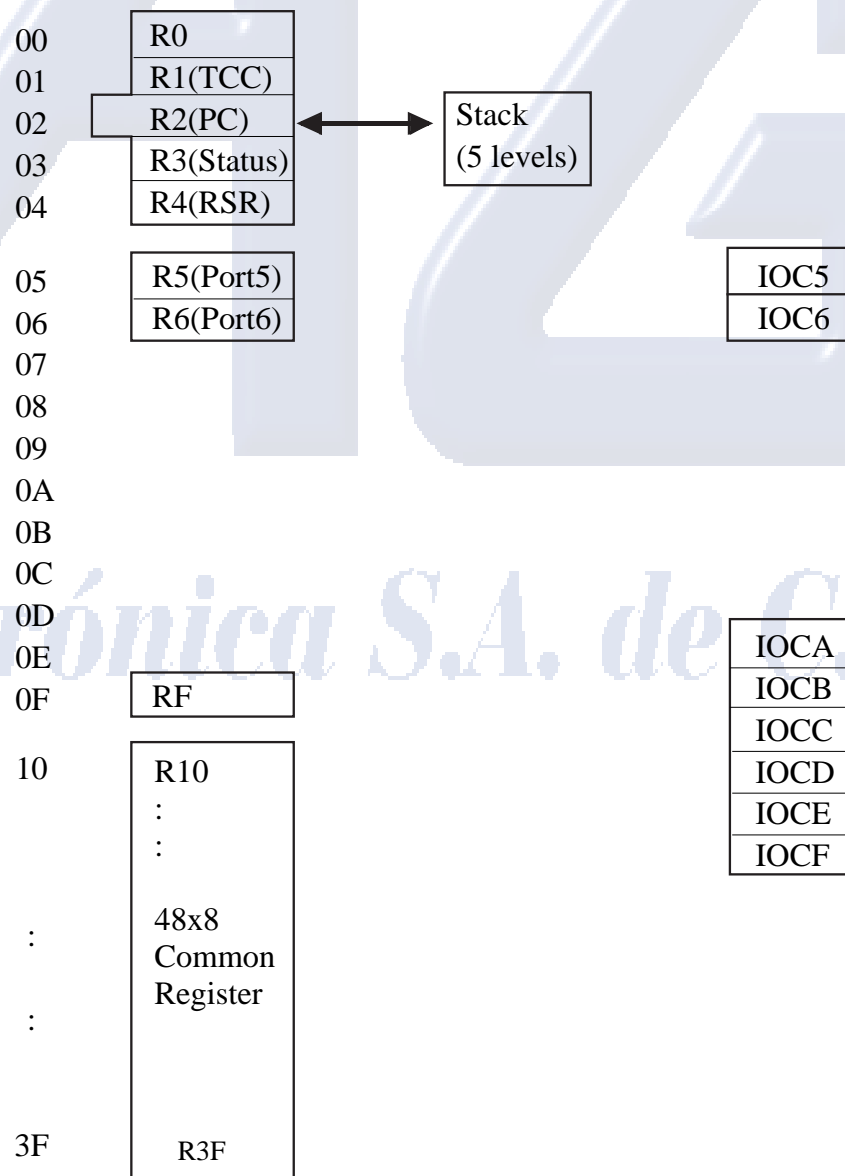

Fig. 4 Data memory configuration
- Bit 0 (C) Carry flag
- Bit 1 (DC) Auxiliary carry flag
- Bit 2 (Z) Zero flag. Set to "1" if the result of an arithmetic or logic operation is zero.
- Bit 3 (P) Power-down bit. Set to 1 during power-on or by a "WDTC" command and reset to 0 by a "SLEP" command.
- Bit 4 (T) Time-out bit. Set to 1 by the "SLEP" and "WDTC" commands, or during power-up and reset to 0 by WDT time-out.
- See the configuration of the data memory in Fig.4.